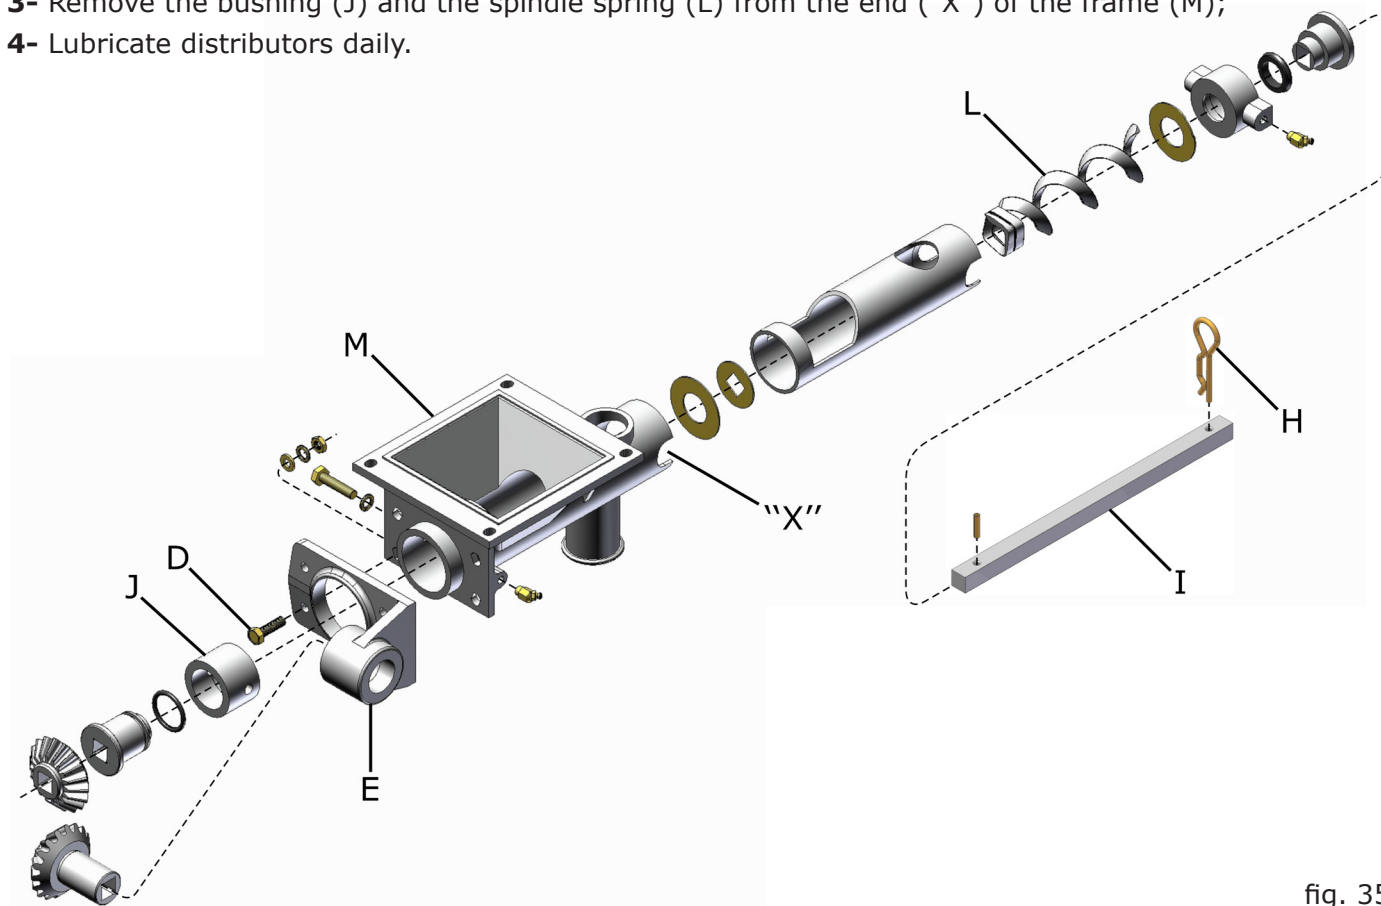

fig. 35
- 1- Loosen the bolts (D) (fig. 35), which fix the base of the gears (E) releasing it;
- 2- Remove the cotter pin (H) and the shaft (I) in the direction of the pin which will not need to be disassembled;
- 3- Remove the bushing (J) and the spindle spring (L) from the end ("X") of the frame (M);